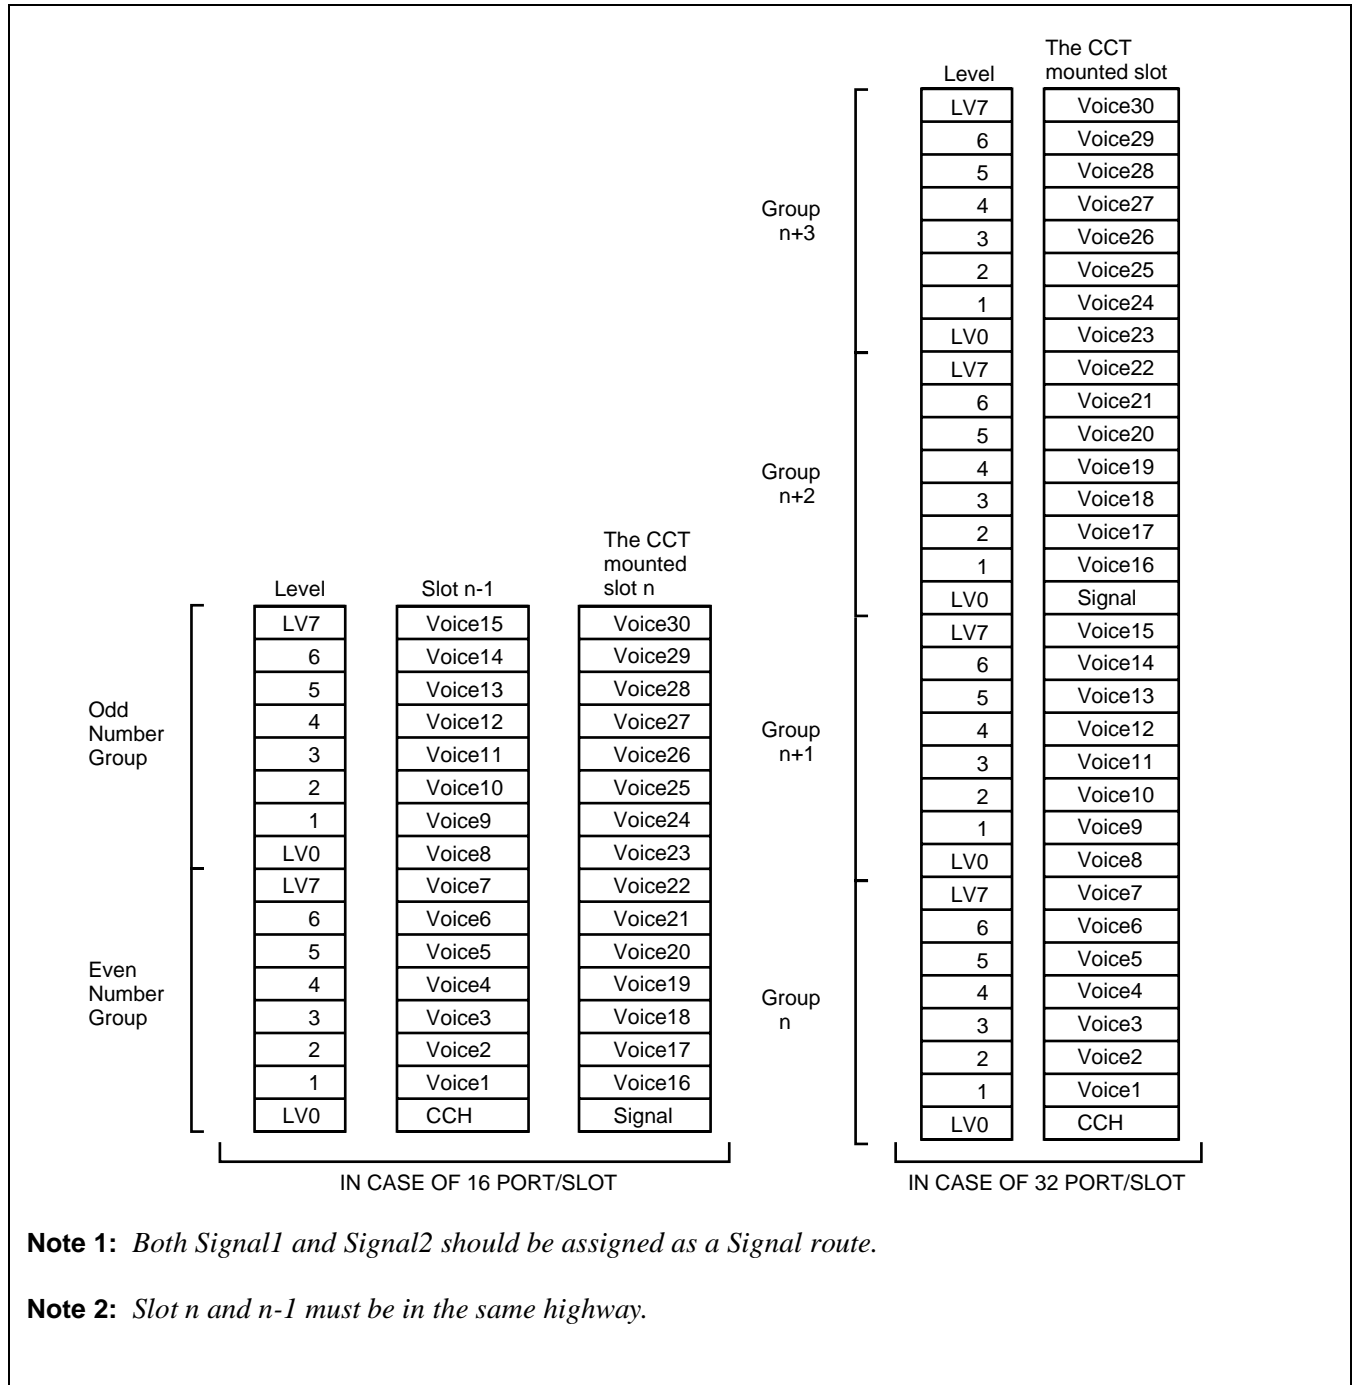
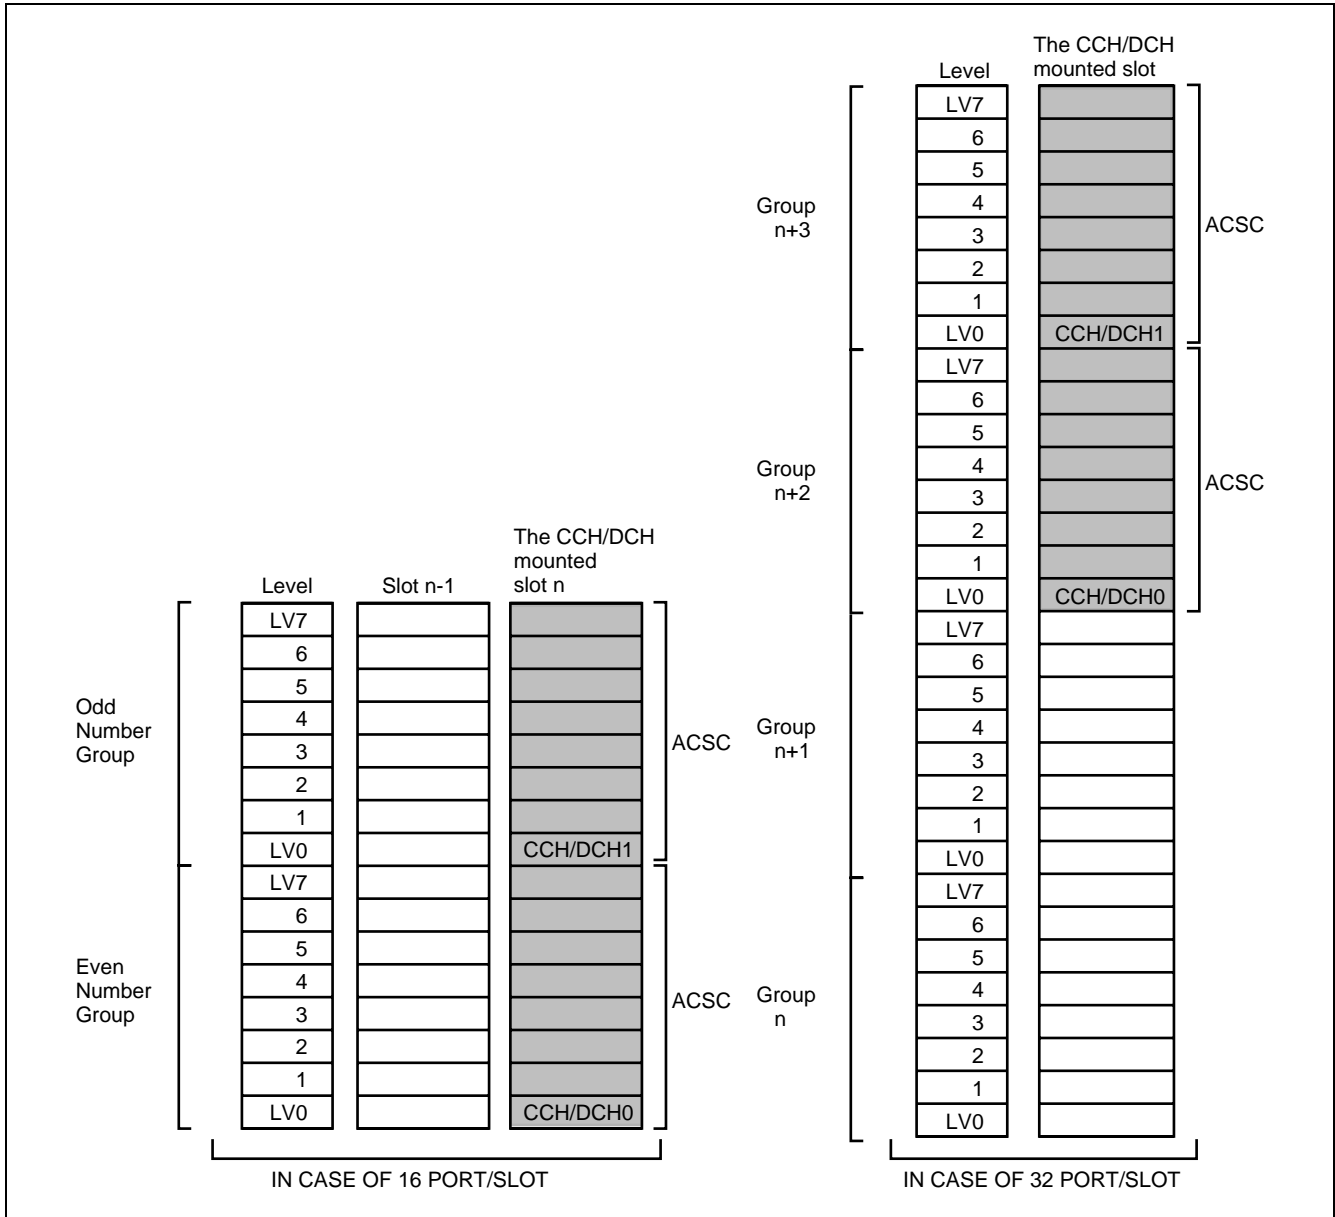

Figure 4-29 ACSC for CCT (E1)
Figure 4-31 ACSC for CCH/DCH
7. The D-channel (signal channel) location should be entered in the CCH parameter as illustrated in Figure 4-29 through Figure 4-31, CCT, PRT, CCH/DCH respectively.